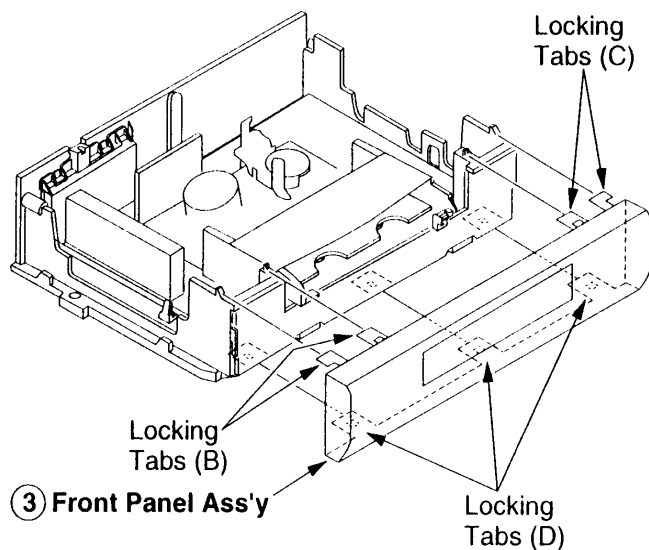

Fig. 5 - Front Panel Assembly Removal
Front Panel Assembly Removal (Figs. 5, 6)
2. Release two (2) locking tabs (B) on the top left (Fig. 5).
3. Release two (2) locking tabs (C) on the top right.
4. Release three (3) locking tabs (D) on the bottom side of the front panel.